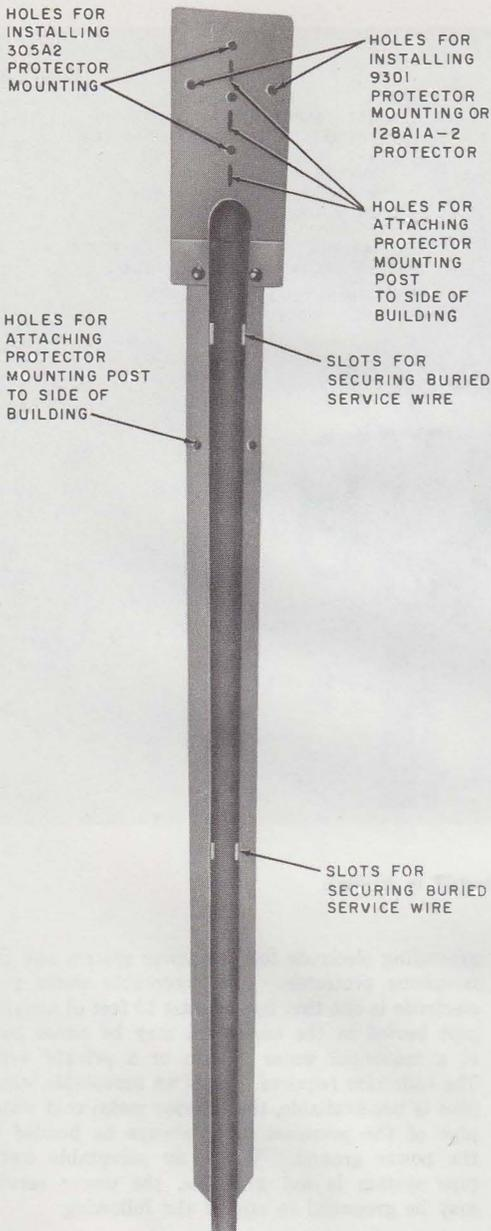

Fig. 28—Protector Mounting Post (PMP)
3.36 The protector mounting posts, PMP-38 (Fig. 28) and PMP-50, are designed to mount a 93D1 protector mounting, a 305A2 protector mounting, a 123- or 128-type protector, or a B customer service closure, where protectors are served by buried service wire. The PMP is available in 38-inch and 50-inch sizes to suit various conditions. It can be installed freestanding, at the edge of a mobile home, or can be installed on the side of a permanent building or a power service entrance conduit. When used freestanding, the PMP must be in the ground a minimum of 12 inches.